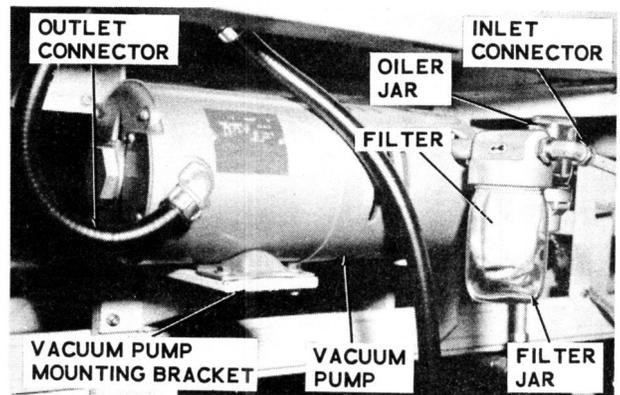

Figure 2-2. Vacuum Opener Pump
d. Position vacuum opener vacuum pump on other mounting bracket with filter end facing away from conveyor drive end of packager. Secure vacuum pump to bracket with supplied hardware. Check inlet and outlet tubing for dirt before connecting. Make inlet tubing connection at filter (Figure 2-2).